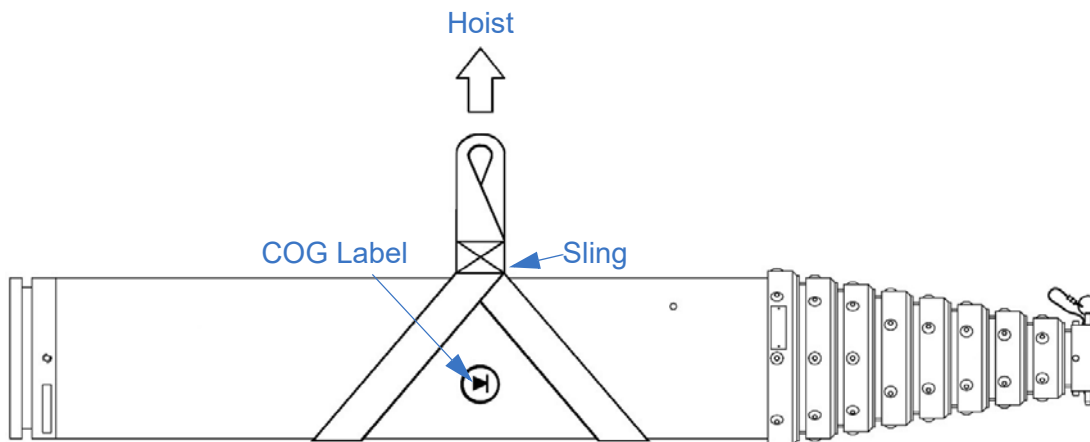

Figure 5-2 Hoist the Mast
4. Using the center of gravity (COG) label as a reference, outfit the mast with a sling capable of supporting the mast weight (Figure 5-2). The sling must support the mast from at least two points. Attach the sling so that horizontal balance and control can be maintained while positioning the mast. Hoist and slowly lift the mast until just free of the mast saddles. Lower the mast and adjust the sling as necessary to balance the mast. Hoist the mast free from the crate and carefully move the mast into the desired position.